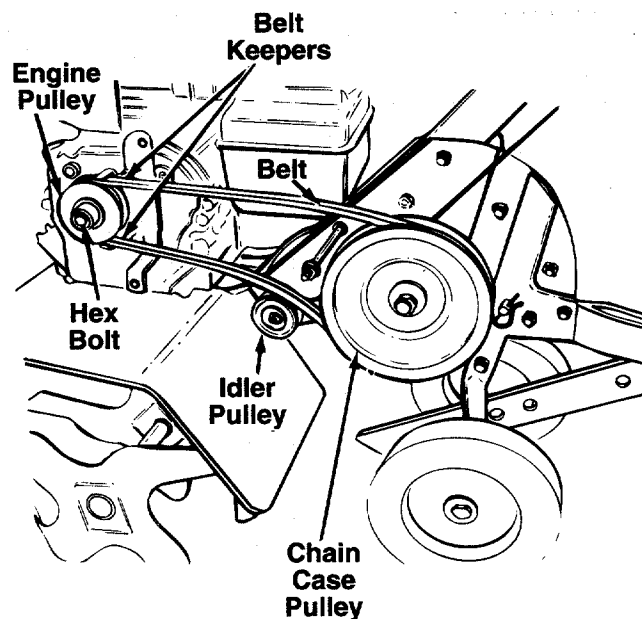

FIGURE 15.
#### Forward Drive Belt (Refer to Figure 15)
- a. Remove two self-tapping screws and flat washers from the front of belt cover. See figure 15.
4. Loosen the hex bolt which secures the engine pulley. See figure 15. Slide the pulley half out from between the belt keepers. Remove the belt.
**NOTE:** Upon reassembly, make certain the belt is routed in between the belt keepers at the engine pulley, and over the idler pulley as shown in figure 15. Be certain to adjust the clutch control as instructed in the final clutch adjustment section of assembly instructions.